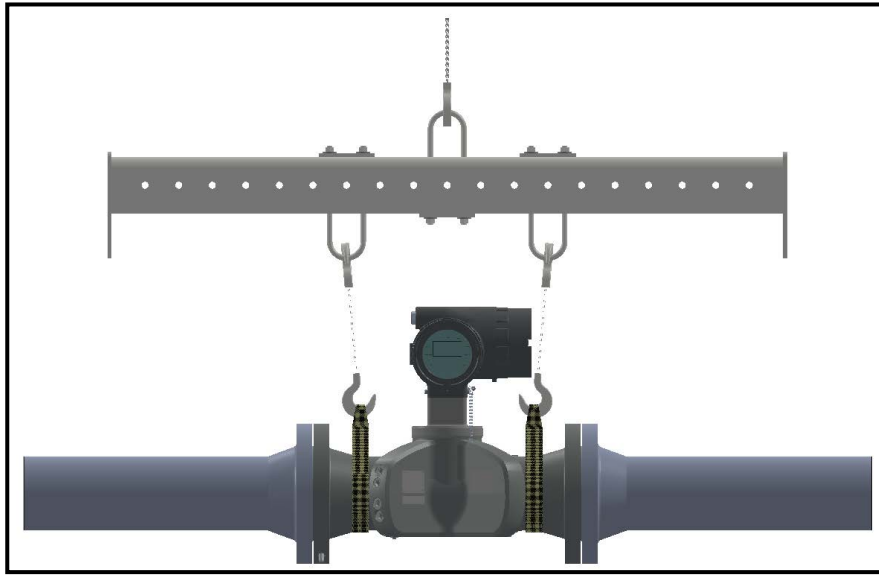

Figure 7: Lifting strap locations 6
- Make sure the **Sentinel LCT8** is oriented with the flow transmitter in a vertical position at the top, as shown in *Figure 7* below.
WARNING! To avoid possible strain, refer to the *Sentinel LCT8* label for the assembly weight, use a properly-rated lifting assembly, and place the lifting straps in the indicated locations (see *Figure 7*). Never stand below any object being lifted!